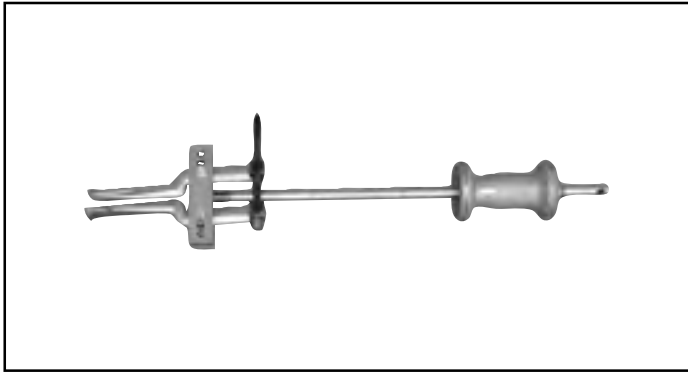

FIGURE 1
- A)** Remove all shaft related components from shaft (17) (i.e. keys, nuts). To aid in reassembly of the motor, make a "V" shaped set of lines from the endcover (15) to the housing using either paint or a marker. With shaft facing down, secure motor in vise by clamping on to housing (6).
- B)** Loosen and remove six bolts (16) holding motor assembly together. Remove endcover (15) and body seal (1). Discard seal. Remove commutator (14) and place on a flat, clean surface with the seal (4) facing up. Place a small screwdriver on the seal and gently tap until the opposite side lifts from the groove. Remove seal (4) and discard. Remove manifold (13). Remove rotor assembly (12). Remove both seals (1) from rotor assembly (12) and discard. Remove wear plate (11) and lay aside. Remove drive link (10) and thrust bearing (9) from housing. Remove body seal (1) from housing and discard.
- C)** Gently tap shaft (17) upward from housing (6) and remove through rear of housing. Using a slide hammer type bearing puller, (see Figure 1), remove the rear housing bearing (8). Remove shaft seal (2), thrust washer (3), and thrust bearing (7). Discard shaft seal (2), thrust washer (3), and rear housing bearing (8).